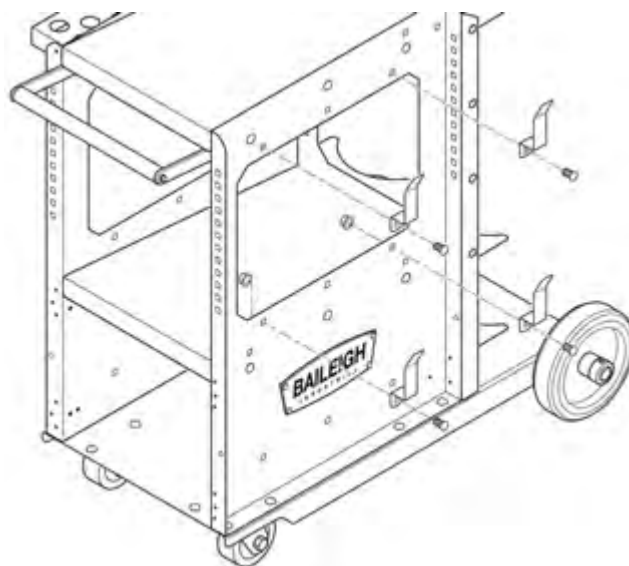

Figure 4-12
13. On the opposite side of the cart assembly, using four M8 x 20 Round-Head Square-Neck Carriage Bolts (item #2) with M8 Flanged Nylock Hex Nuts (item #4), attach four Cable Hooks (item #19) as shown in Figure 4-12. **Fully-tighten these nuts.**